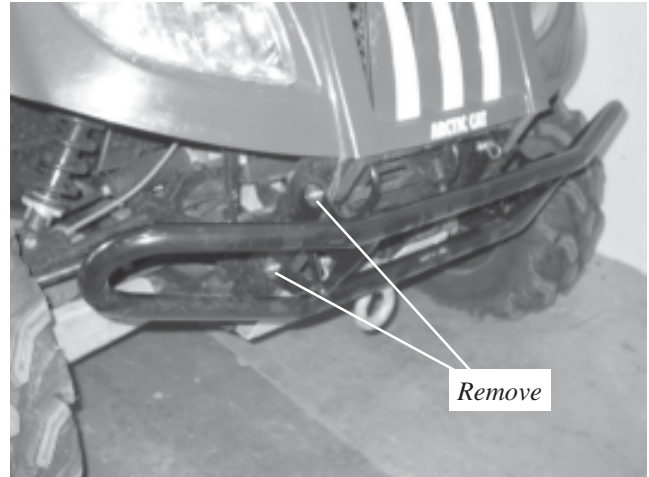

Figure 1
1. Remove factory bumper as shown in Figures 1 and 2, using 10mm and 13mm wrenches.